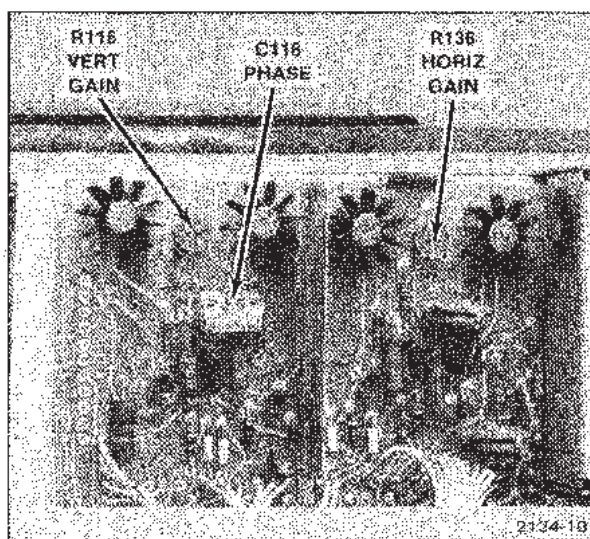

Fig. 3-4. Locations of vertical and horizontal adjustments.
d. Adjust—Vert Gain R116 for exactly 5 divisions of deflection. See Fig. 3-4 for adjustment location.
e. Adjust—Hor Gain R136 for exactly 5 divisions of deflection. See Fig. 3-4 for adjustment location.
i. Adjust—Phase C116 for minimum loop opening (a straight line) in the diagonal-loop display. See Fig. 3-4 for adjustment location.